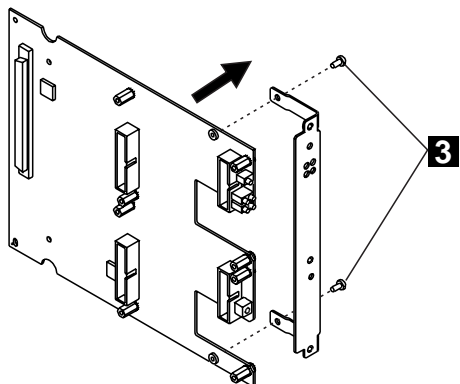

Figure 11. Removing the Dummy Faceplate Bracket
- 3 Remove the dummy faceplate bracket from the motherboard (3 in Figure 11), saving the screws for the new bracket. Save the dummy bracket in a safe place for future reuse.